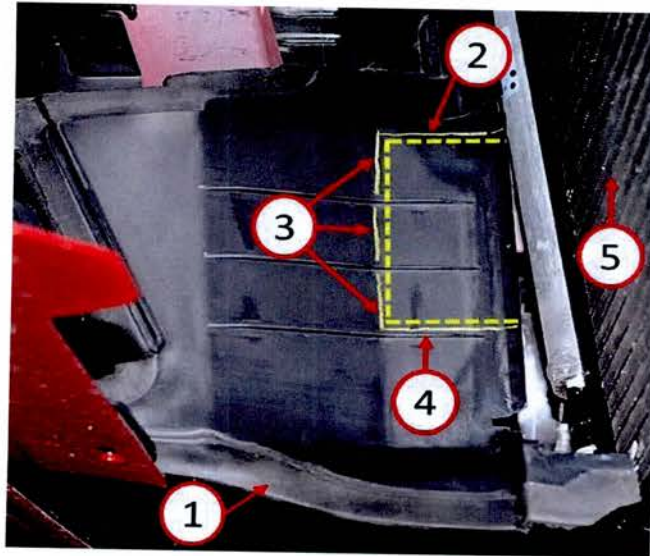

Fig. 3 Modify Air Deflector
11. Locate the passenger side air deflector (1) and modify it to allow clearance for the installation of the auxiliary steering cooler (Fig. 3).
12. Using a utility/exacto knife, cut along the indicated top contour/feature line (2) and extend the cut along the side contour/feature line (3) and remove the section indicated by finishing the cut along the top of the lower rib/feature line (4) (Fig. 3).